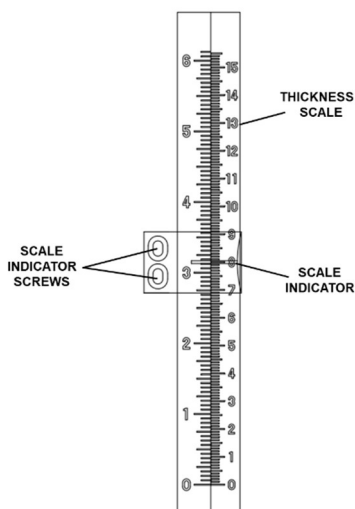

**FIG 8**
3. Rotate the cutterhead to a position where a cutter tip is visible. SEE FIG 8. next page.